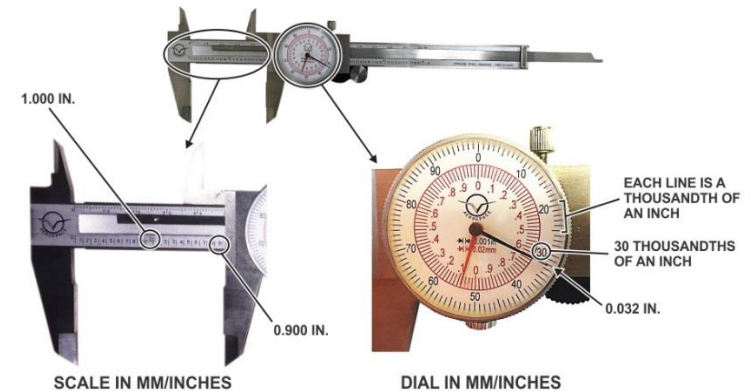

Figure 80: Reading Dial Caliper e.g. 1.932 inch
- d. Read the caliper measurement (Figure 80) and record this measurement.
- iii. Read the caliper measurement (Figure 80) and record this measurement.